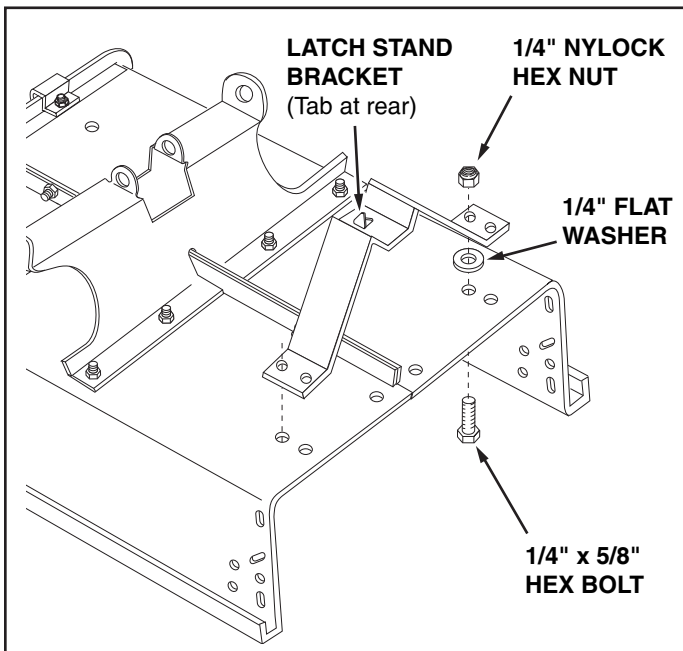

FIGURE 5
8. To prevent accidental tipping during the following assembly procedures, lower the cart to rest upside down, with the wheel support facing up, as shown in figure 5.
9. Align the latch stand bracket so that the tab is at the rear. Fasten the bracket to the rear set of holes at the front of the cart using two 1/4" x 5/8" hex bolts, 1/4" flat washers and 1/4" Nylock hex nuts. Use the 1/4" flat washers as shims between the bracket and the cart bed. **Make finger tight.** See figure 5.
19. **Tighten** the two bolts that you assembled to the latch stand bracket in figure 5.